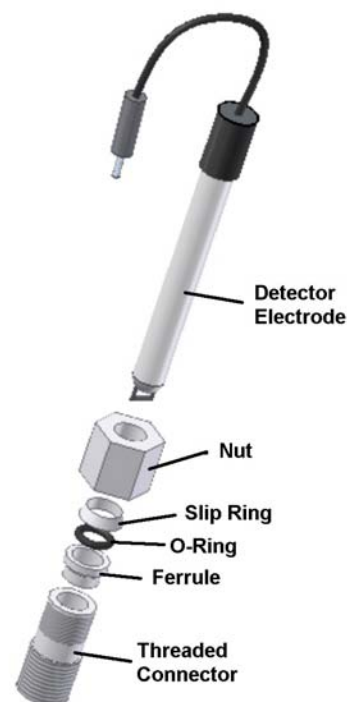

Figure 1
1. **Detector Electrode** – Refer to Figure 1 at right. Slip the electrode through the top of the white, plastic nut. Next slide on the slip ring with the narrow tapered portion towards the top of the electrode. Slide the o-ring on. Slide on the ferrule with the wider portion towards the top of the electrode. Slip the threaded connector on with the finer threads towards the top of the electrode. Slide the whole assembly together and position the detector electrode so that the black plastic portion of the electrode top is about 1/8 – 1/4 inch above the nut. Finger tighten the nut onto the threaded connector. Wrap the coarse threaded portion of the connector well with Teflon tape (*it may also be desirable to apply some vacuum grease to the wrapped threads*). Screw the threaded connector into the large hole on the threaded anode compartment cap until the white nut is about 1/8 – 1/4 inch above the surface of the cap.